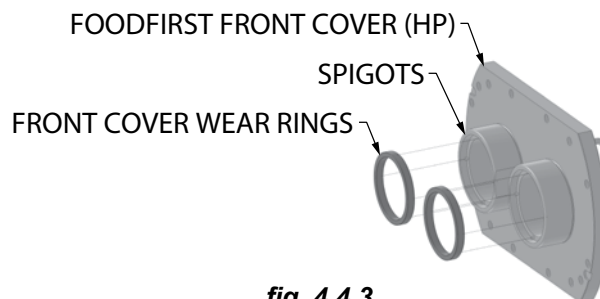

fig. 4.4.3
4.4.1.4.2 FoodFirst Front Cover Wear Ring Removal- High Pressure (HP) Cover (ref. fig. 4.4.3)